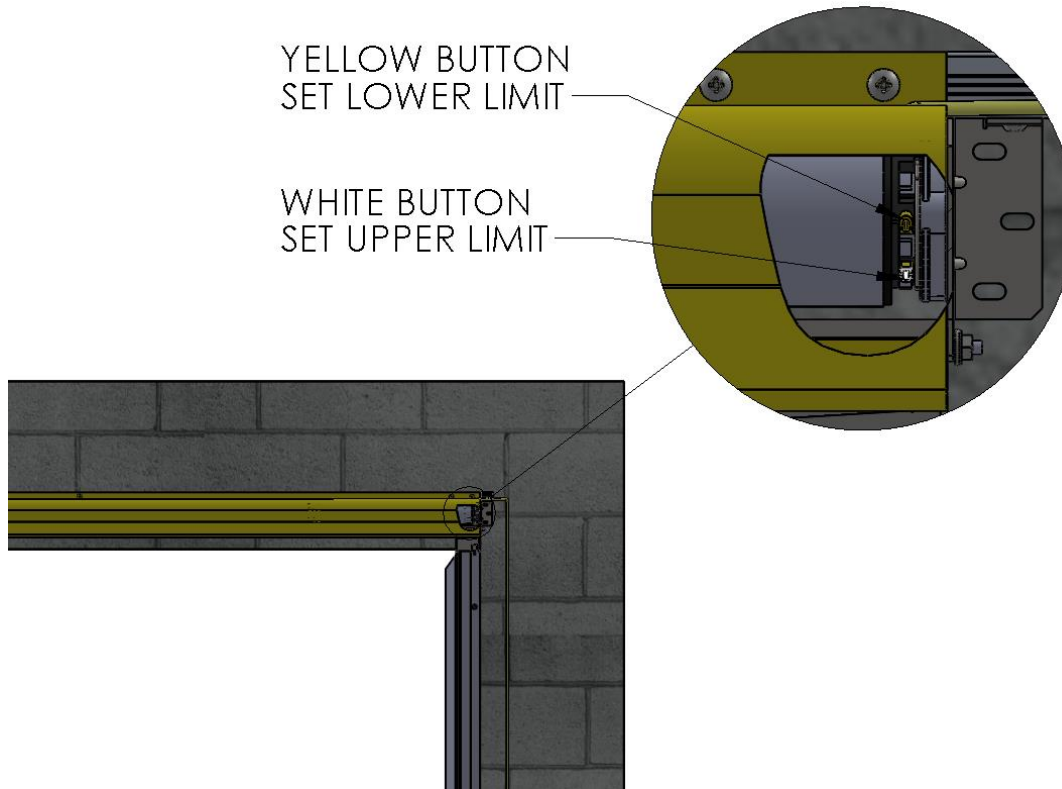

Figure 4: 600 SERIES DOOR RAISE/LOWER DOOR ADJUSTMENT
- Always, FIRST JOG THE DOOR DOWN toward the closed position. Observe where the lower limit stops the door and adjust accordingly by depressing the upper button at the end of the motor. (See Figure 4 on page 6) Run the door partially upward, stop, and then close again a few times up and down to make finer adjustments for the closed position as desired.
- Now open the door and note the upper stop point. Adjust in the same way using the lower button at the end of the motor. (See Figure 4 on page 6) Repeat a few times until the desired upper stop position is finally achieved.